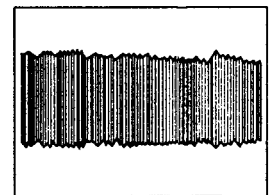

Fig. 1 RF waveform
2. Search for frame #2,701 and observe the RF waveform.(Fig. 1)